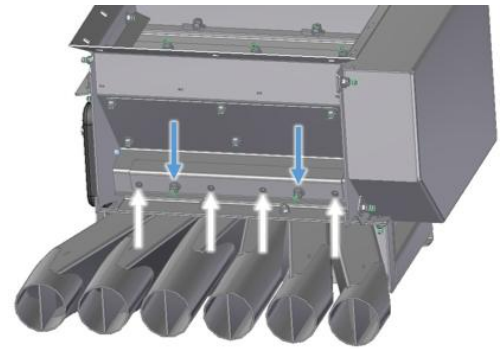

Figure 38
- Above the seed outlets, there are 4 bolts with a TX25 drive. Above it, there is a fixing plate that is attached with 2 hexagonal nuts WAF10 (see Figure 38).